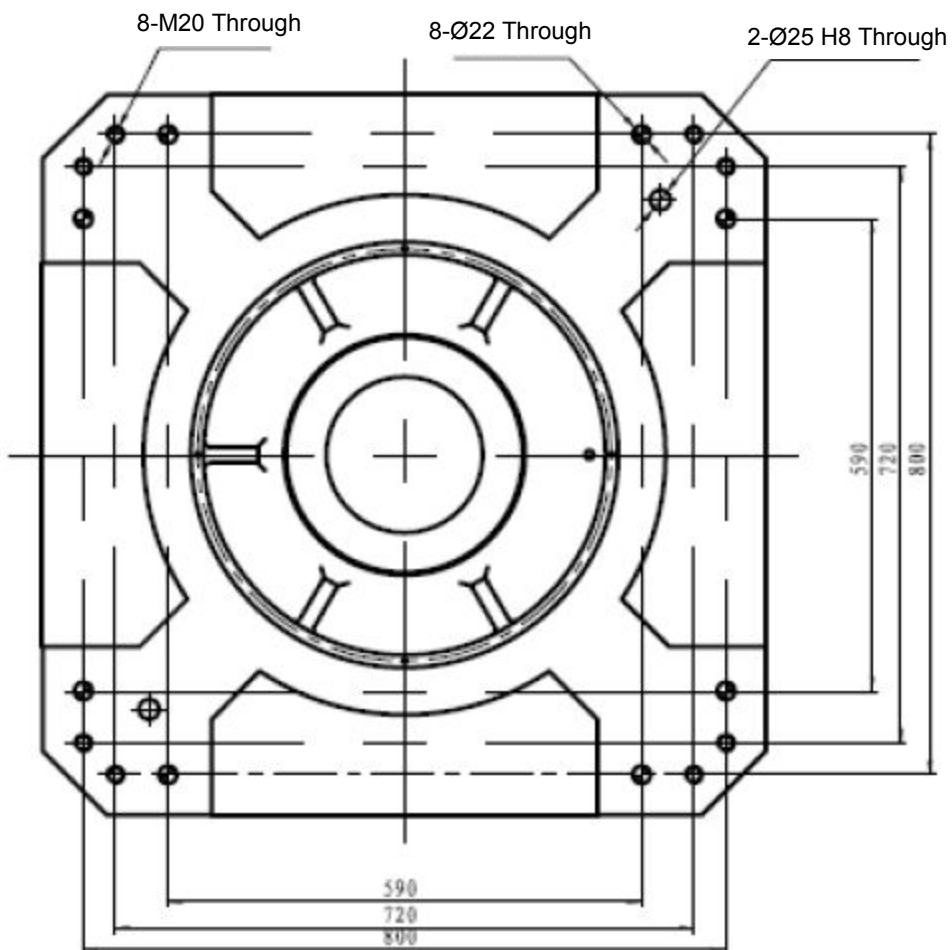

Figure 3-2 Base Mounting Hole Dimensions of SP200/ SP275
1. The base mounting hole dimensions of SP200/SP275 robot are shown in fig.3-2.